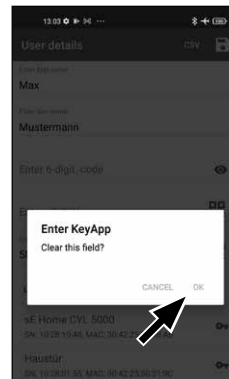

Fig. 62
- 2 A message will then appear prompting you to confirm (Fig. 62). Tap on "OK".